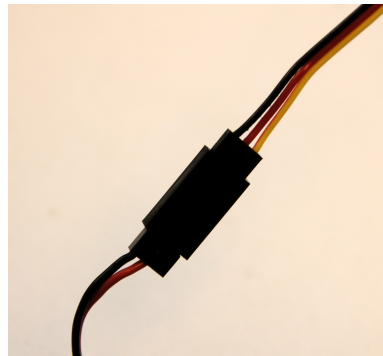

FIG. 2
- (d) Connect the BLACK ended THREE WIRE servo plug on the battery to the BLACK ended THREE WIRE servo plug from the RC RECEIVER on your Burn-Down device. **(see FIG. 2)**